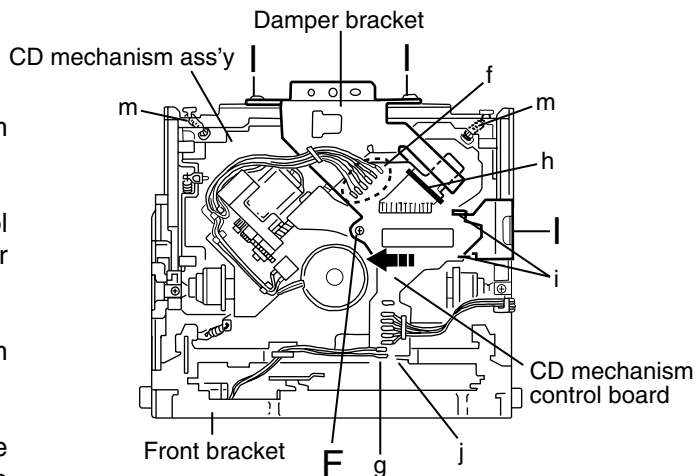

Fig.1
■ Removing the CD mechanism control board (See Fig.1 and 2)
(See Fig.1, 6 to 9)